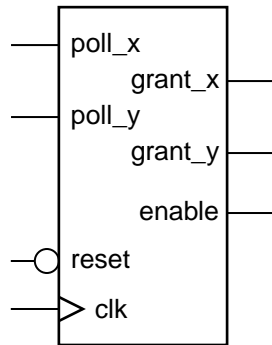

Figure Q5b
- (c) Write VHDL architecture code for the more complex controller shown in figure Q5b. Two competing devices  $x$  and  $y$  wish access to the bus by raising `poll_x` or `poll_y` respectively. Device  $x$  should always be given priority over device  $y$ , and whenever either of them is granted access to the bus, `enable` should be raised along with the appropriate `grant` signal. The controller reset should be asynchronous active low.